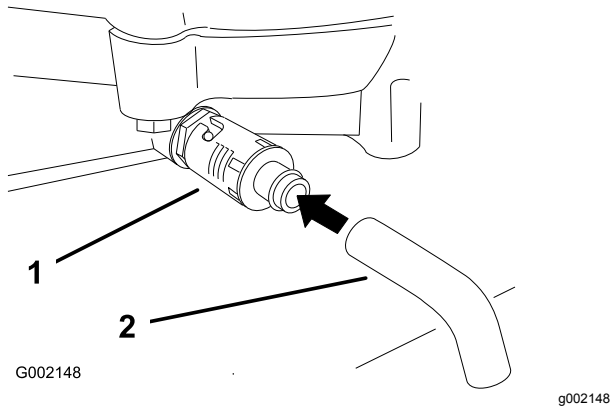

Figure 23
- Place a pan below the drain. Rotate the oil drain valve to allow the oil to drain (Figure 23).